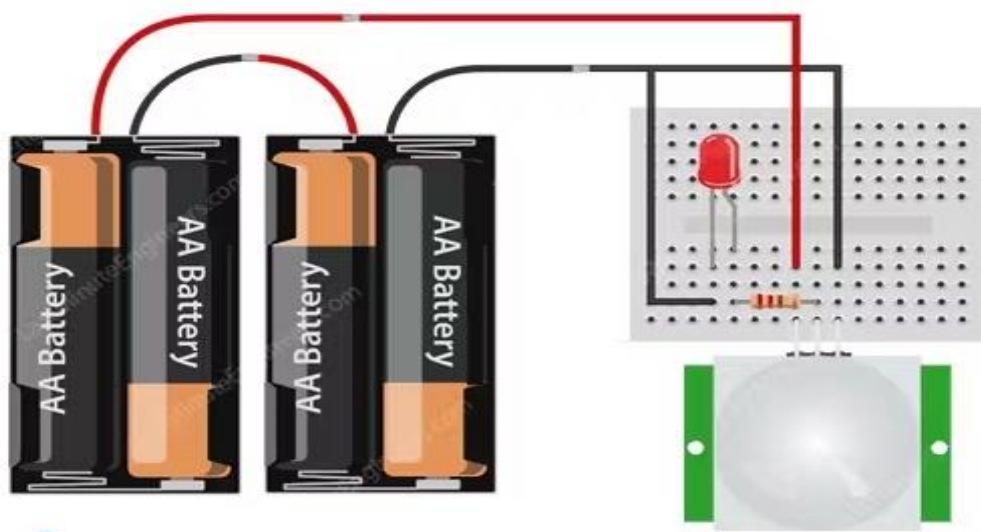

Fig.1: circuit connection
Step 2. Connect a LED to the output pin through a 220Ω current limiting resistor. A buzzer can also be connected here (Fig.1).